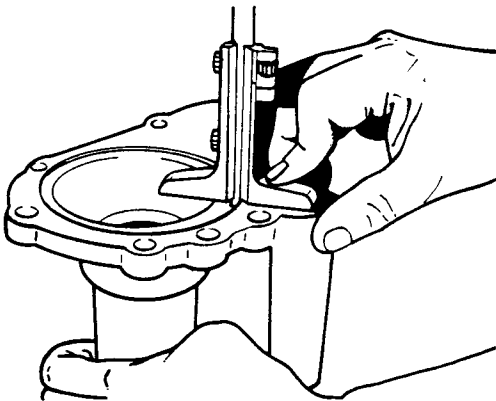

Fig H1.29
- (3) Refer to Fig H1.29. Measure the depth of the housing for the exterior track of the bearing, in the front cover, taking into account that this cover must have the gasket fitted.